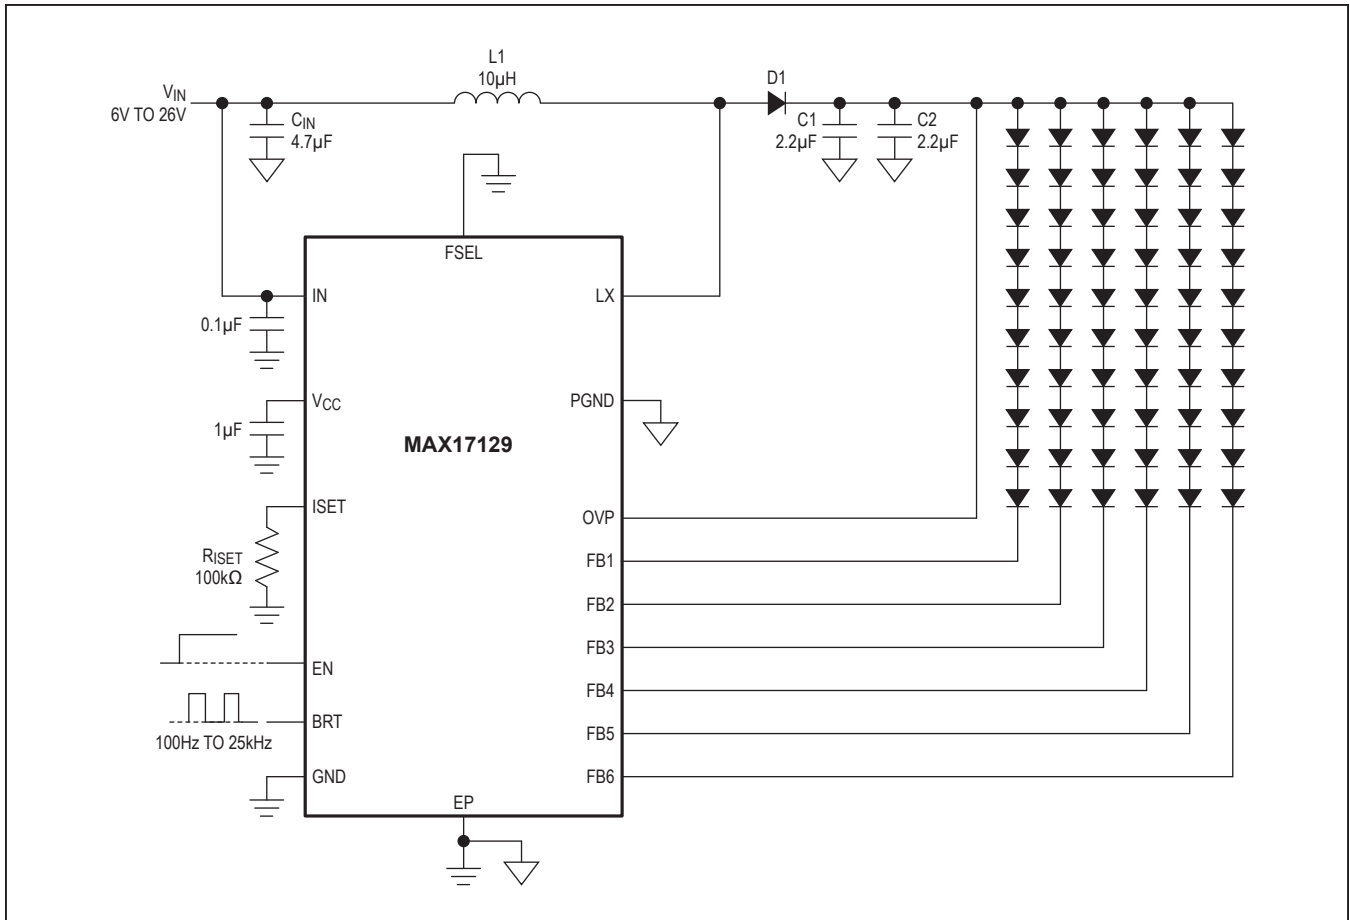

Figure 1. MAX17129 Typical Operating Circuit
**Electrical Characteristics (continued)**(Circuit of Figure 1.  $V_{IN} = 12V$ ,  $R_{ISET} = 100k\Omega$ ,  $T_A = -40^\circ C$  to  $+85^\circ C$ , unless otherwise noted.) (Note 1)
(Circuit of Figure 1.  $V_{IN} = 12V$ ,  $T_A = +25^\circ C$ , unless otherwise noted.)
The MAX17129 typical operating circuit is shown in Figure 1. Table 1 lists some recommended components, and Table 2 lists the contact information for component suppliers.